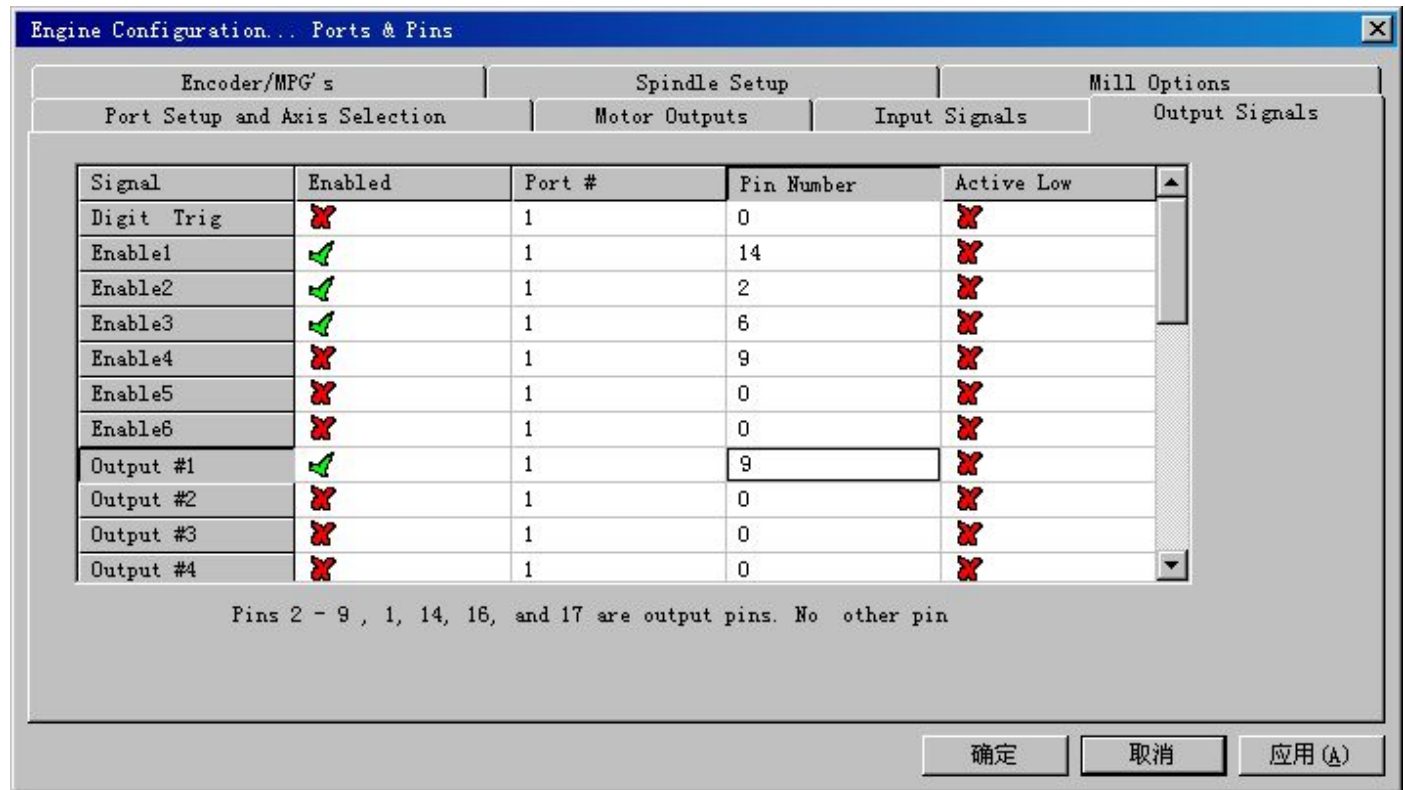

Fig.6
Then select the *output signals* column, as shown in Fig.6, and set up the corresponding items per the setup described in the circle.
- Please double check the software settings according to the Fig.5 and Fig.6